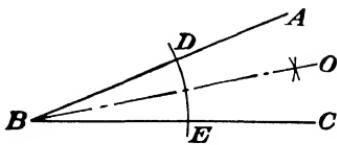

Fig. 116.
- Place the point of the compass at B (see Fig. 116).